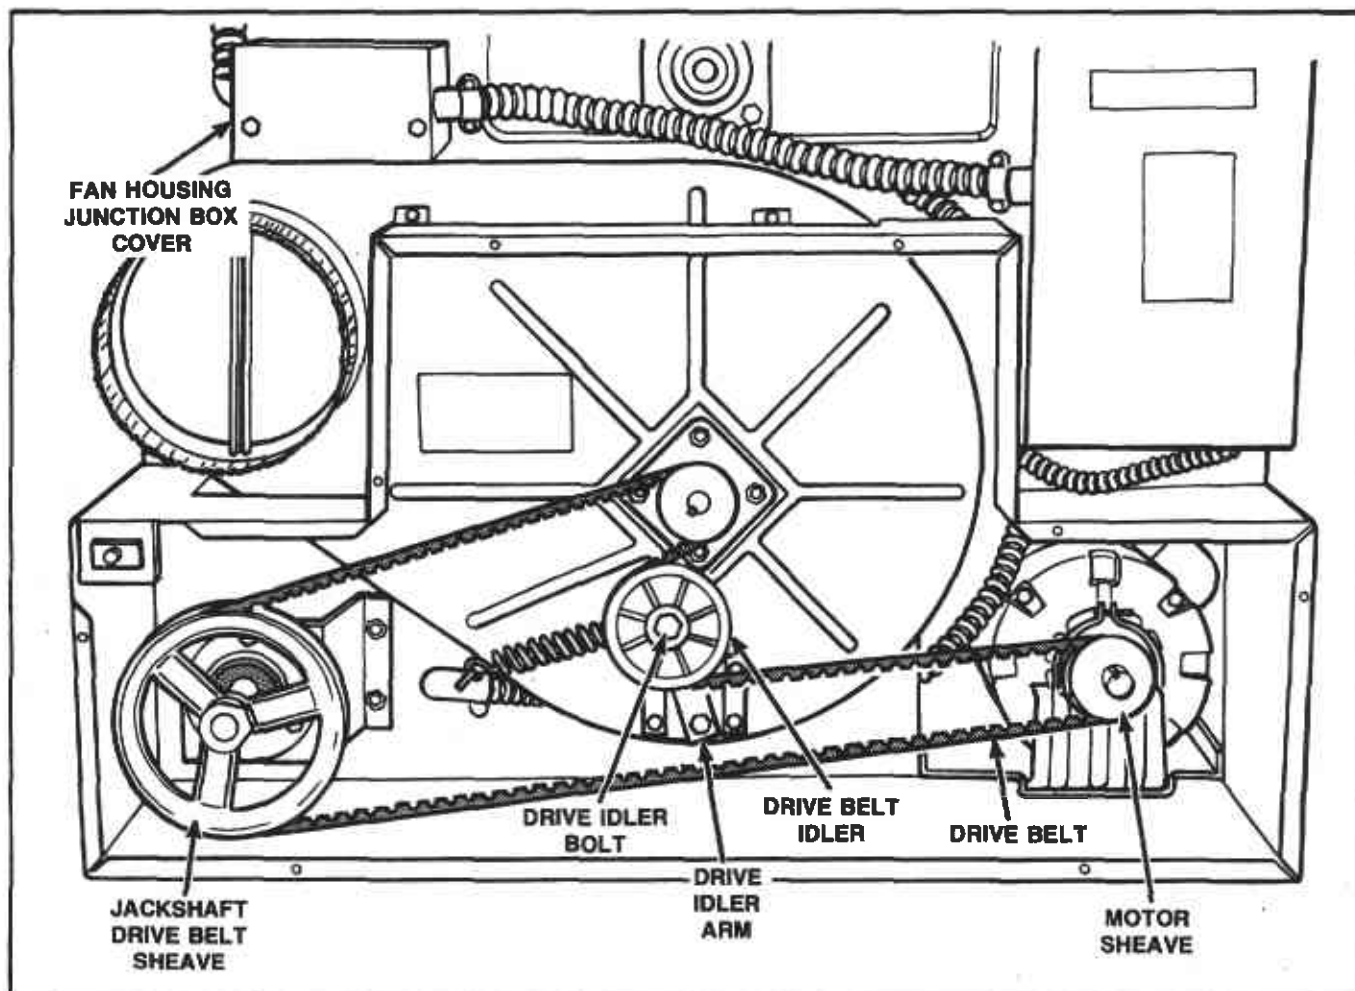

Figure 29
- c. Run belt off sheaves and idler, *Figure 29*.
### 32. DRIVE IDLER (*Figure 29*)
c. Run belt off sheaves and idler, *Figure 29*.
- Run drive belt off sheaves and idler, *Figure 29*.